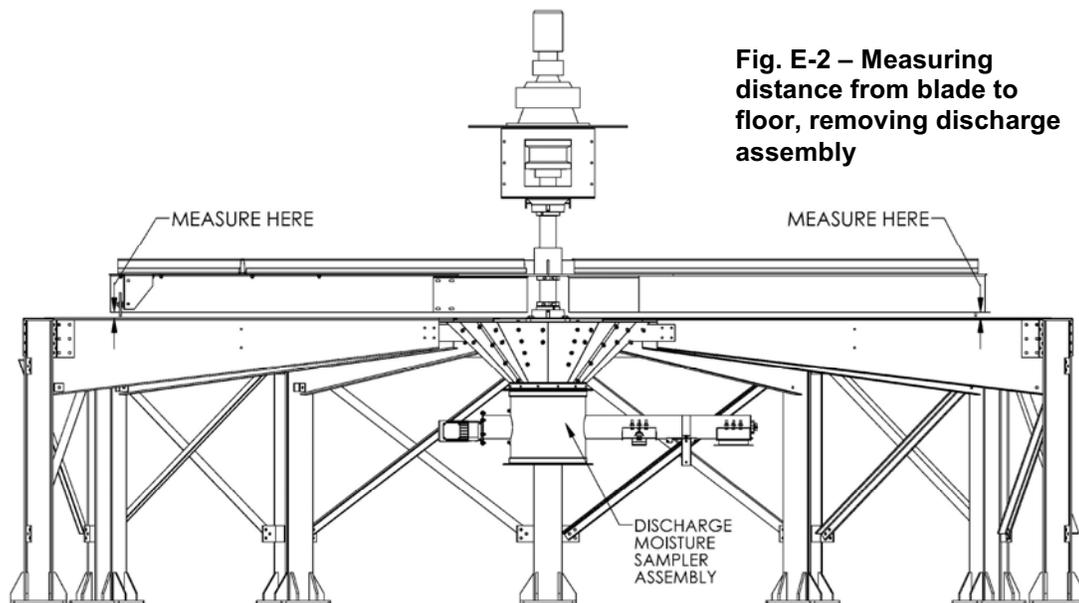
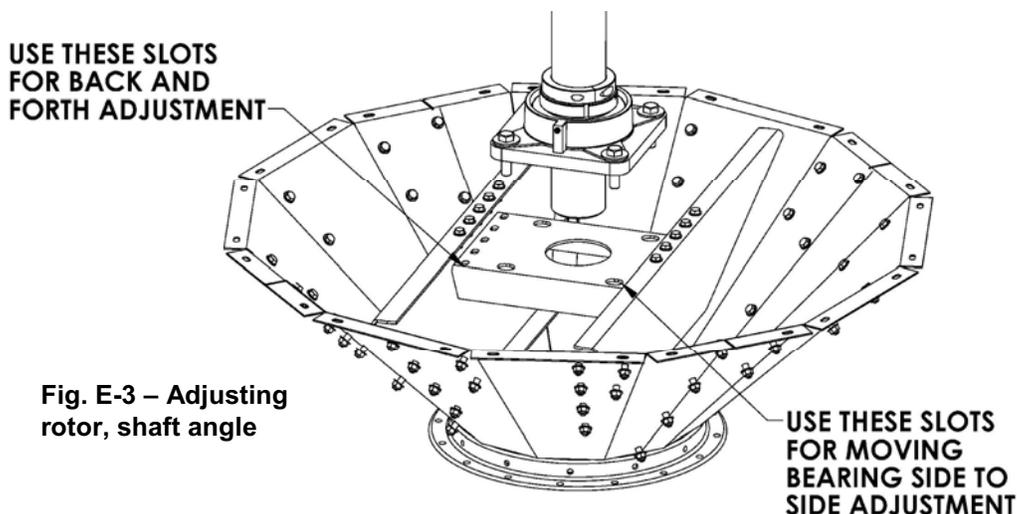

Fig. E-2 – Measuring distance from blade to floor, removing discharge assembly
Fig. E-3 – Adjusting rotor, shaft angle
- 1. Make sure bottom of scraper blades are parallel to grain floor.** Choose one scraper blade and measure distance from bottom of blade to grain floor. See Fig. E-2. Run unload rotor and stop it every 90° to check the same measurement. If measurements vary by more than 1/2", adjust angle of rotor and shaft.
2. **Adjust rotor/shaft angle to grain floor.** Start by loosening four bolts for upper bearing, but do not remove bolts. Next, remove discharge moisture sampler assembly. See Fig. E-2. This will provide access to lower bearing bolts and bottom of rotor shaft. Loosen four bolts on lower bearing and 10 bolts on lower bearing plate, but do not remove bolts. Lower bearing bolts are in slots in one direction and bolts holding bearing plate in are slotted in other direction. See Fig. E-3. Using a pry bar from under dryer, push rotor shaft in direction needed to equalize measurements taken in Step 1. **NOTE:** On some tower dryers there may not be slots in lower bearing plate. If necessary, use a grinder to make slots or use slightly smaller bolts for lower bearing. Retighten all bolts once shaft has been adjusted.